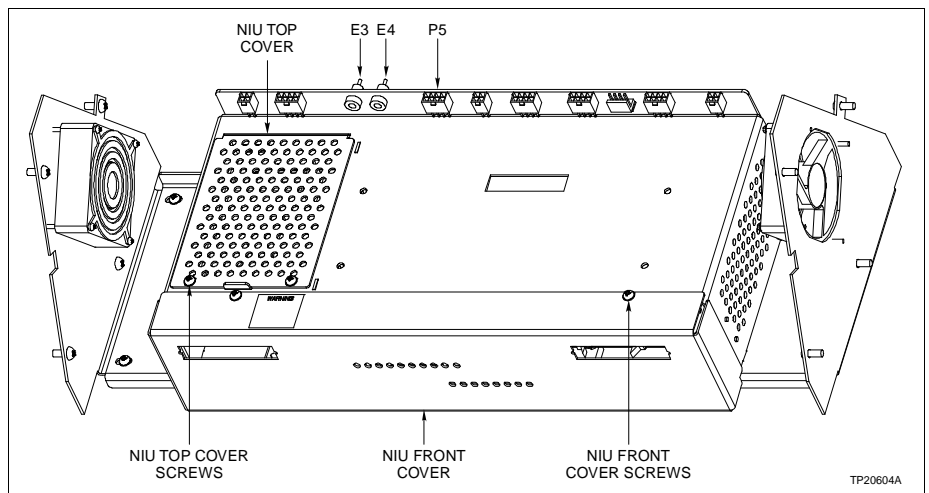

Figure PR47-1. NIU Card Cage with Covers Installed
- 2. Use the Phillips head screwdriver to remove the two NIU front cover screws (Fig. PR47-1).